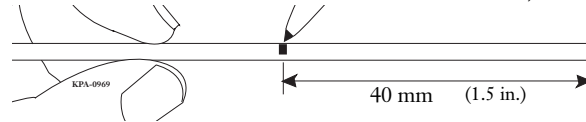

Figure 25 — Measure and Mark Outer Jacket
Step 1: Measure and mark 40 mm from the end of the cable's outer jacket (Figure 25).